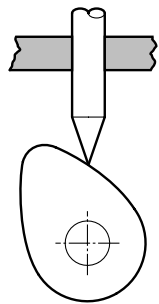

Fig. 8
- (ii) Cams are used to convert motion from one type to another. Fig. 8 shows a *heart-shaped* cam.
Add labels to Fig. 8 to show how the cam converts rotary to reciprocating motion.